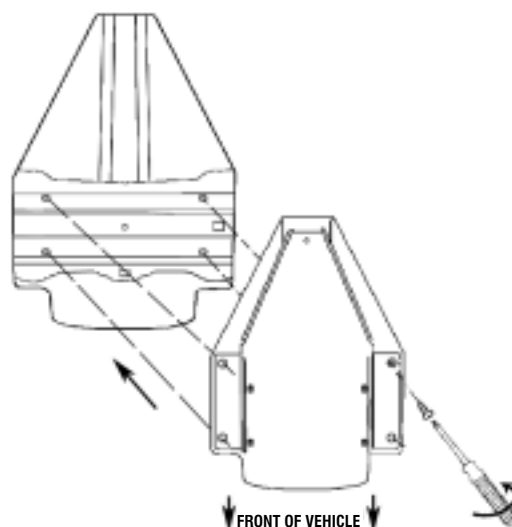

FIGURE 25
1. PRESS THE DVD BRACKET UPWARD AND USE FOUR M6 SCREWS AND LOCTITE TO FASTEN SECURELY TO THE ROOF BOW. (SEE FIGURE 25)